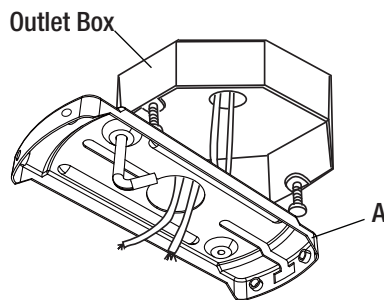

Figure 6
- Pass the 120-volt supply wires through the center hole in the mounting bracket (A) as shown in Figure 6.
- Attach the mounting bracket (A) on the electrical box by sliding the mounting bracket (A) over the screws provided with the outlet box. Make sure the mounting bracket (A) is level. You may need to insert additional washers (not provided) between the outlet box and the mounting bracket (A) to make it level. Note the flat side of the mounting bracket (A) should be toward the electrical box.
- Tighten the two mounting screws securely and carefully lift the fan assembly up to the mounting bracket (A).